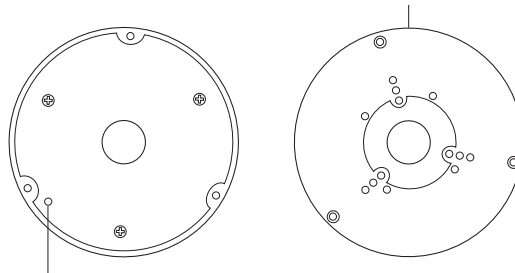

Fig. 3.13
5. Remove the lid from the junction box and use the included hardware. Insert the included wall anchors into the holes. Use a Phillips head screwdriver and screws to mount the junction box (Fig. 3.13).